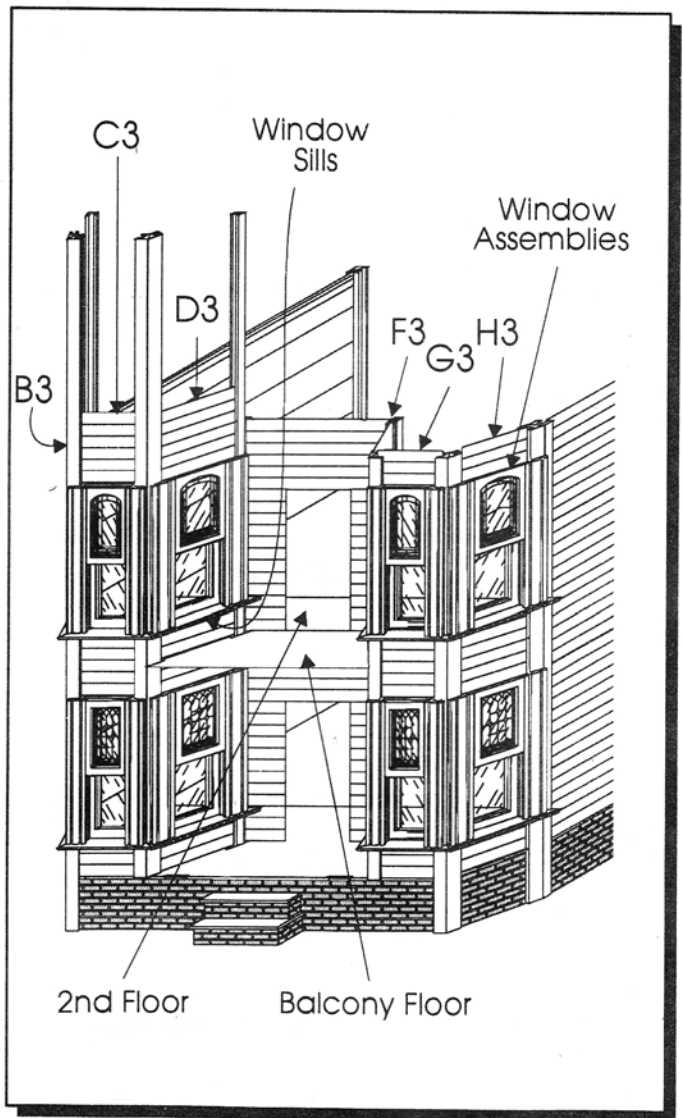

Figure 18
16. Install the 2nd floor Window Sills, Window Assemblies with moldings, and dry fit Siding Walls B3, C3, D3, F3, G3, and H3. See Figure 18.